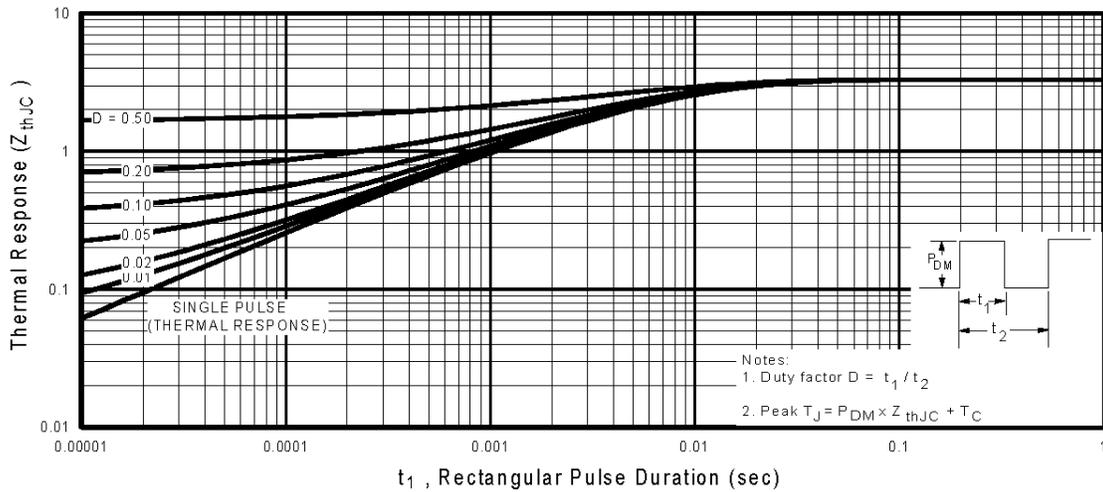

Fig 11. Maximum Effective Transient Thermal Impedance, Junction-to-Case
- ① Repetitive rating; pulse width limited by max. junction temperature. (See fig. 11)
- ② V_{DD} = 25V, starting T_J = 25°C, L = 1.0mH